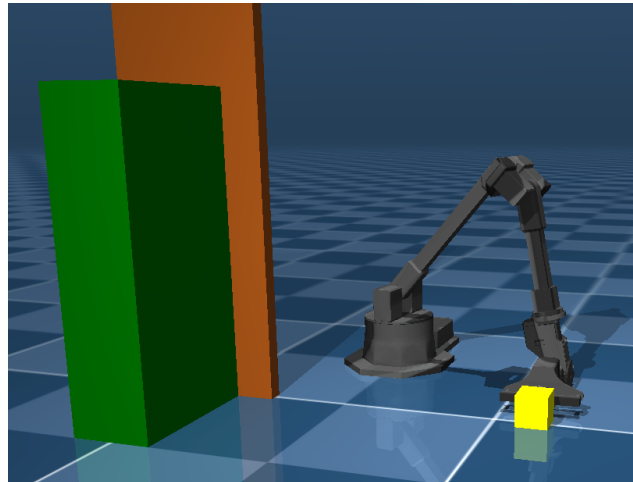

Figure 2: Trajectory generation for the Trossen WidowX 250 S
2. **Trajectory generation for Trossen Robotics WidowX 250 S:** Figure 2 shows the WidowX 250S by Trossen Robotics. A video of the robot in action is here: https://www.youtube.com/watch?v=l_10IH0JNxI. I have provided the *wx250s_mocap.xml* file. Please use this file and include it in the scene.xml meshes that can be downloaded from GitHub